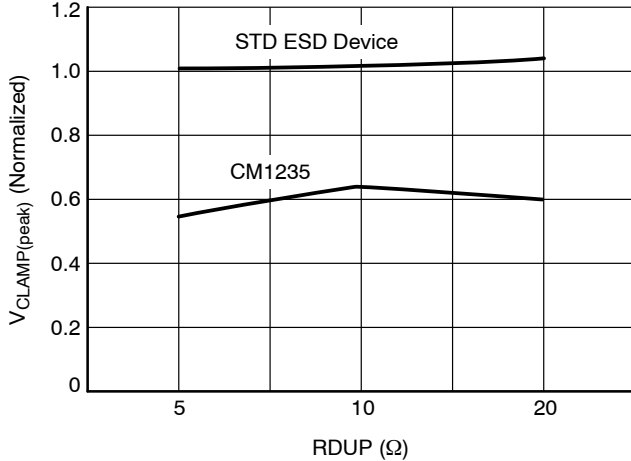
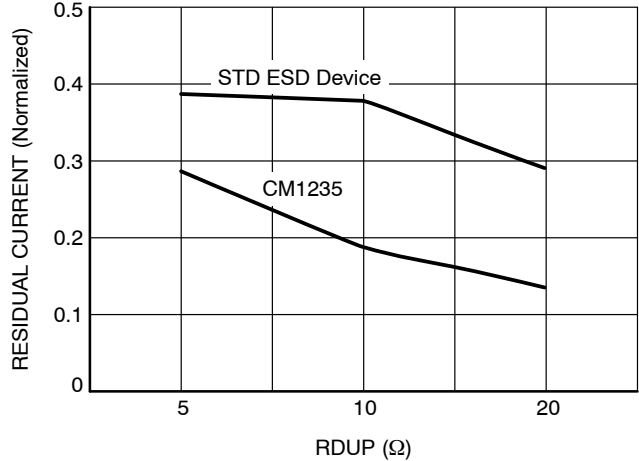
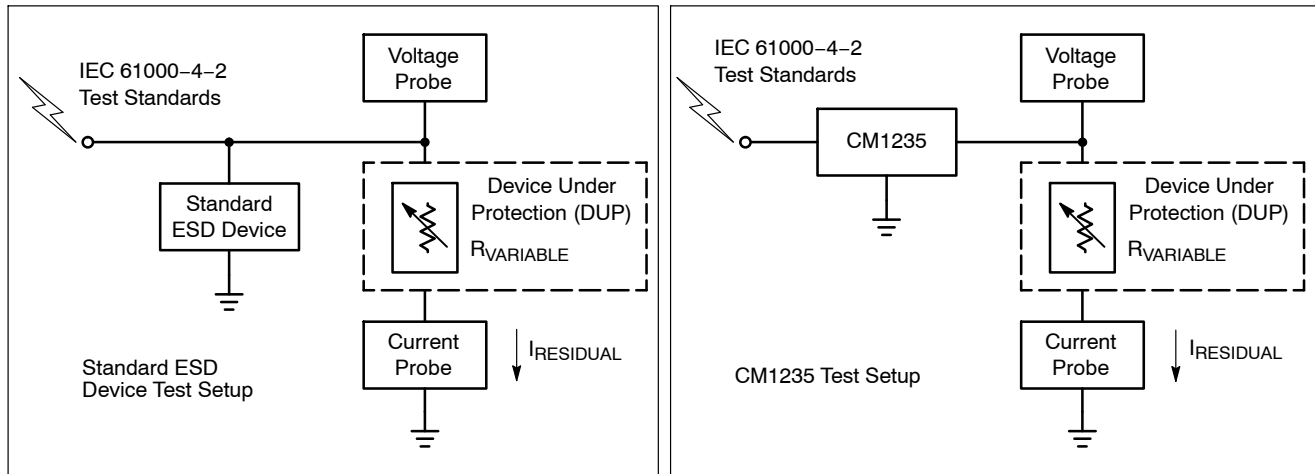

Figure 5. Normalized VPeak (8 KV IEC-61000 4-2 ESD Contract Strike) vs. Loading (RDUP)*
Figure 6. Normalized Residual Current into DUP vs. RDUP*
Figure 7. Test Setups: Standard Device (Left) and CM1235 (Right)
| I_{RES} | Residual ESD Peak Current on RDUP (Resistance of Device Under Protection) | IEC 61000-4-2 8 kV; RDUP = 5 Ω , $T_A = 25^{\circ}\text{C}$; See Figure 7 | | 3.0 | | A |
1. Impedance values for deviation from continuous 100 Ω uncompensated differential microstrip, with typical layout as measured. See Figure 7. Product parametric performance is indicated in the Electrical Characteristics for the listed test conditions, unless otherwise noted. Product performance may not be indicated by the Electrical Characteristics if operated under different conditions.
Figure 5 shows that the CM1235 (ESD protector) lowers the peak voltage and clamping voltage by 45% across a wide range of loading conditions in comparison to a standard ESD protection device. Figure 6 also indicates that the DUP/ASIC protected by the CM1235 dissipates less energy than a standard ESD protection device. This data was derived using the test setups shown in Figure 7.